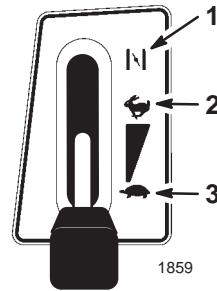

Figure 9
4. Move the throttle lever to Choke (Fig. 9).
6. After the engine starts, slowly move the throttle lever to Fast (Fig. 9). If the engine stalls or hesitates, move the throttle lever back to Choke for a few seconds. Then move the throttle lever to Fast. Repeat this as required.
1. Move the throttle lever to Fast (Fig. 9).